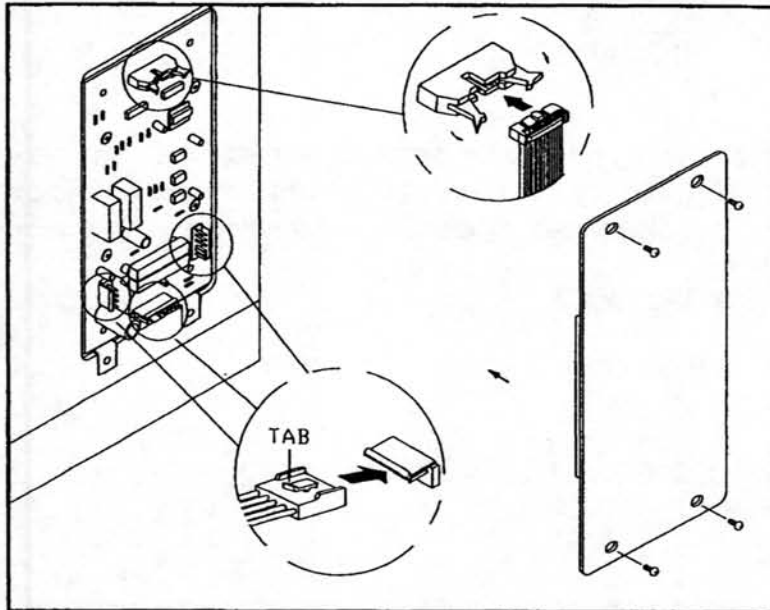

Fig.1-2
1. Make sure all the cords on the DRIVE BOARD, POWER SUPPLY BOARD are plugged in a corrective position and securely. (see fig.1-2~1-3)
- c. Make sure all connectors to the drive board are correct securely in place (see Fig. 1-2).
3. Make sure all connectors to the drive board are correct securely in place (see Fig. 1-2).
3. Make sure all connectors to the DRIVE BOARD are correct securely in place (see Fig.1-2).